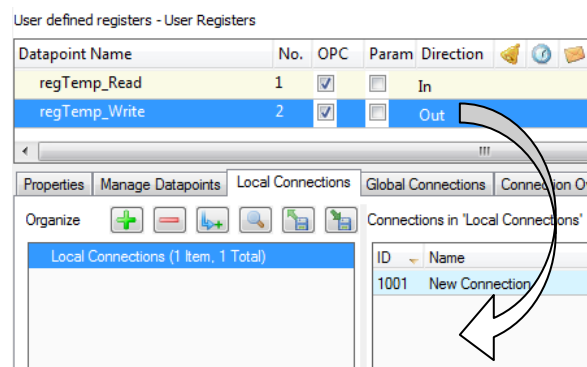

Figure 79: Create a connection with drag-and-drop.
2. In the properties view below the data point list click on the **Local Connections** tab as shown in Figure 79.
3. Then simply drag a data point from the data point list and drop it onto an empty area in the connections list as shown in Figure 79.